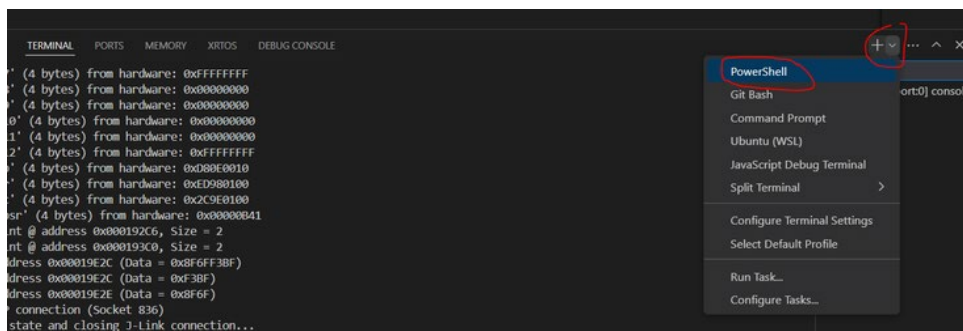

Figure 9 - Adding Powershell to the Terminal View
9. If you make edits to your source file, you'll want to recompile before you start the debugger session again. One way to do this is to open the powershell under TERMINAL (if its not visible, click on the "+" on the right). Please see Figure 9 below.